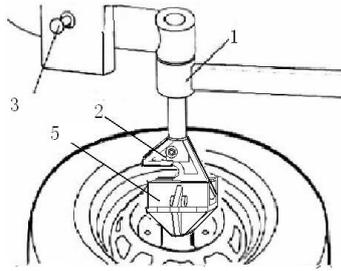

Fig 13
- 5) Turn the rotating arm 1 to its working position. Fix the tire with the tire pressing head (upper) 2 and tire pressing head (bottom) 5 preparing for central positioning; ( Fig 13)